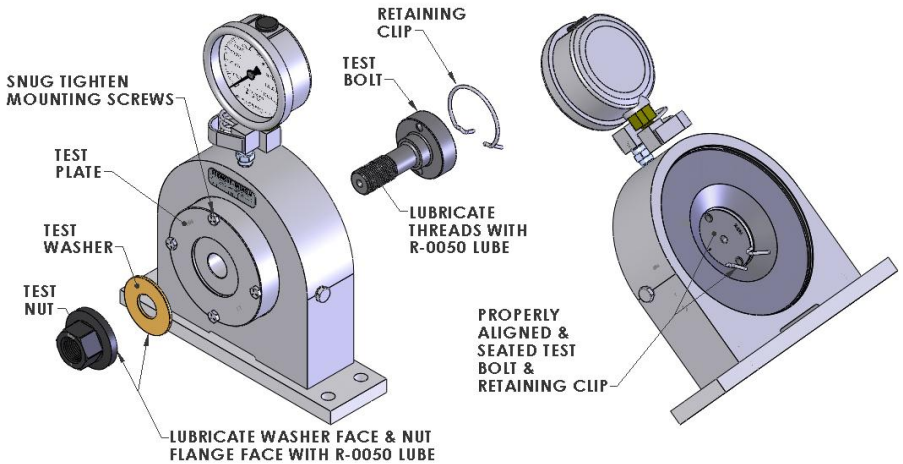

Figure 7, Installation of Test Bolt Assembly
Install the Test Bolt Assembly in the Tool Tester referencing Figure 7 as follows:
- **Apply a liberal amount of R-0050 Test Bolt Lube to the Test Bolt threads, the face of the Test Nut Flange and Test Washer. See Figure 6 & Figure 7.**
The Test Bolt must be properly aligned with the dowel pins and fully seated in the piston pocket. The retainer clip must be installed as shown in Figure 7.